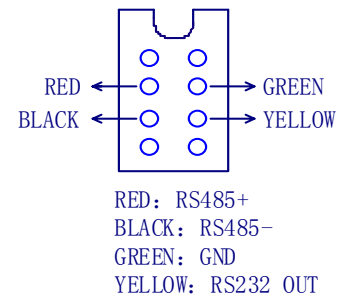

Figure 4
1. The marking of wires of the transfer box(Figure 4)